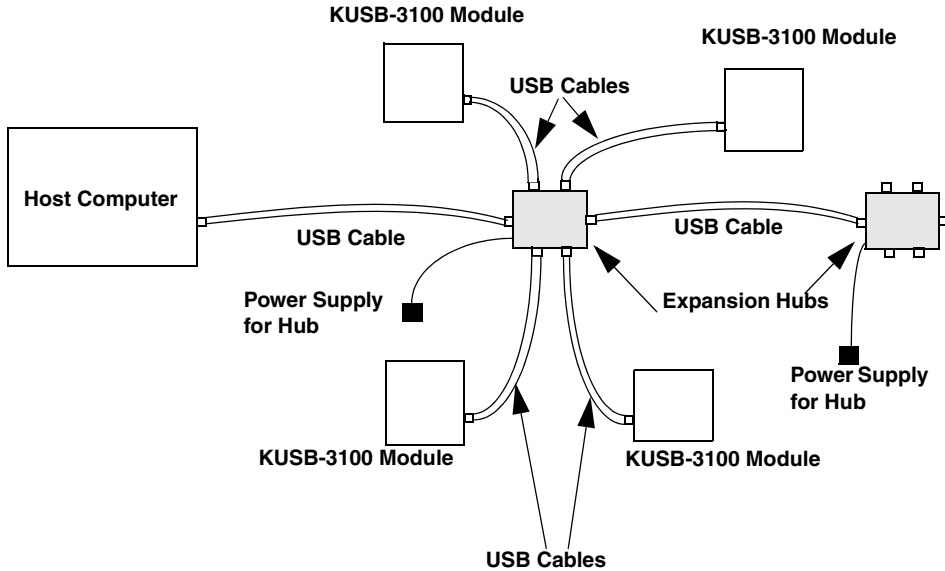

Figure 3: Attaching Multiple KUSB-3100 Modules Using Expansion Hubs
4. Repeat these steps until you have attached the number of expansion hubs (up to five) and modules (up to four per hub) that you require. Refer to Figure 3.